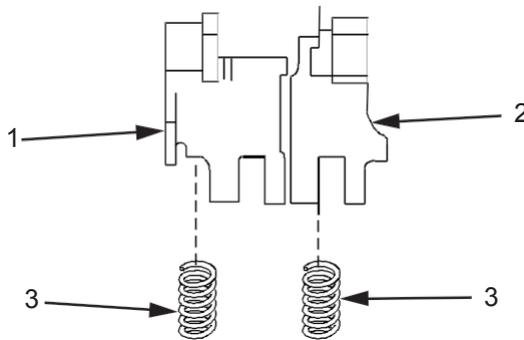

Figure 10. Front, Rear, Cartridge Retaining Pawls, Springs.
15. Separate front (Figure 10, Item 1) and rear (Figure 10, Item 2) cartridge retaining pawls and remove two springs (Figure 10, Item 3).
16. Visually inspect front (Figure 10, Item 1) and rear (Figure 10, Item 2) cartridge retaining pawls for bends, breaks, or cracks. Replace if damaged. Visually inspect springs (Figure 10, Item 3) for broken or kinked coils and replace if damaged. If either spring (Figure 10, Item 3) is broken, kinked or missing, replace both springs (Figure 10, Item 3).